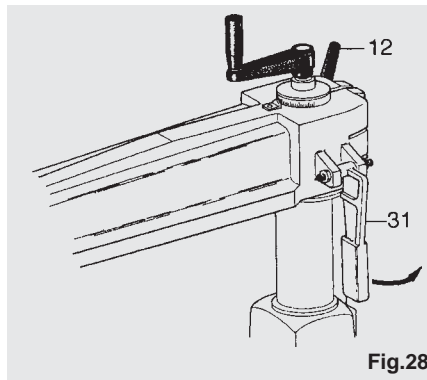

**Fig.27**
If the cut is wider than the thickness of the blade and/or the back side of the cut is deep and/or burnt, the problem might be due to the teeth skidding at back of the blade. To correct this fault, place a square (A) on the stop rule (B), as shown in Figure 27.